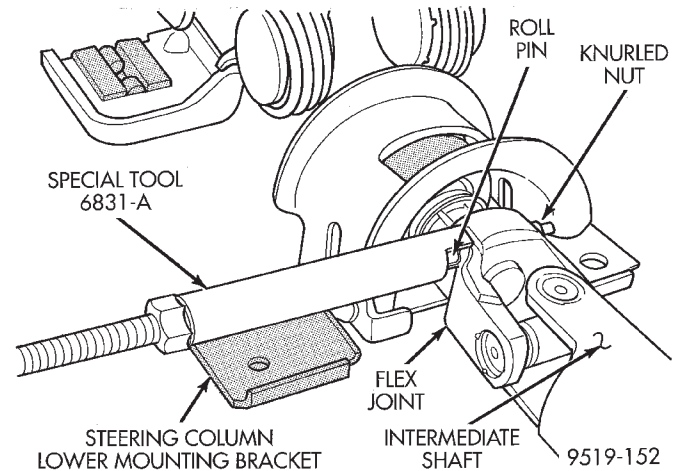

Fig. 20 Removing Roll Pin From Flex Joint
(2) Install Puller, Special Tool 6831-A through center of roll pin in flex joint and install knurled nut (Fig. 20).